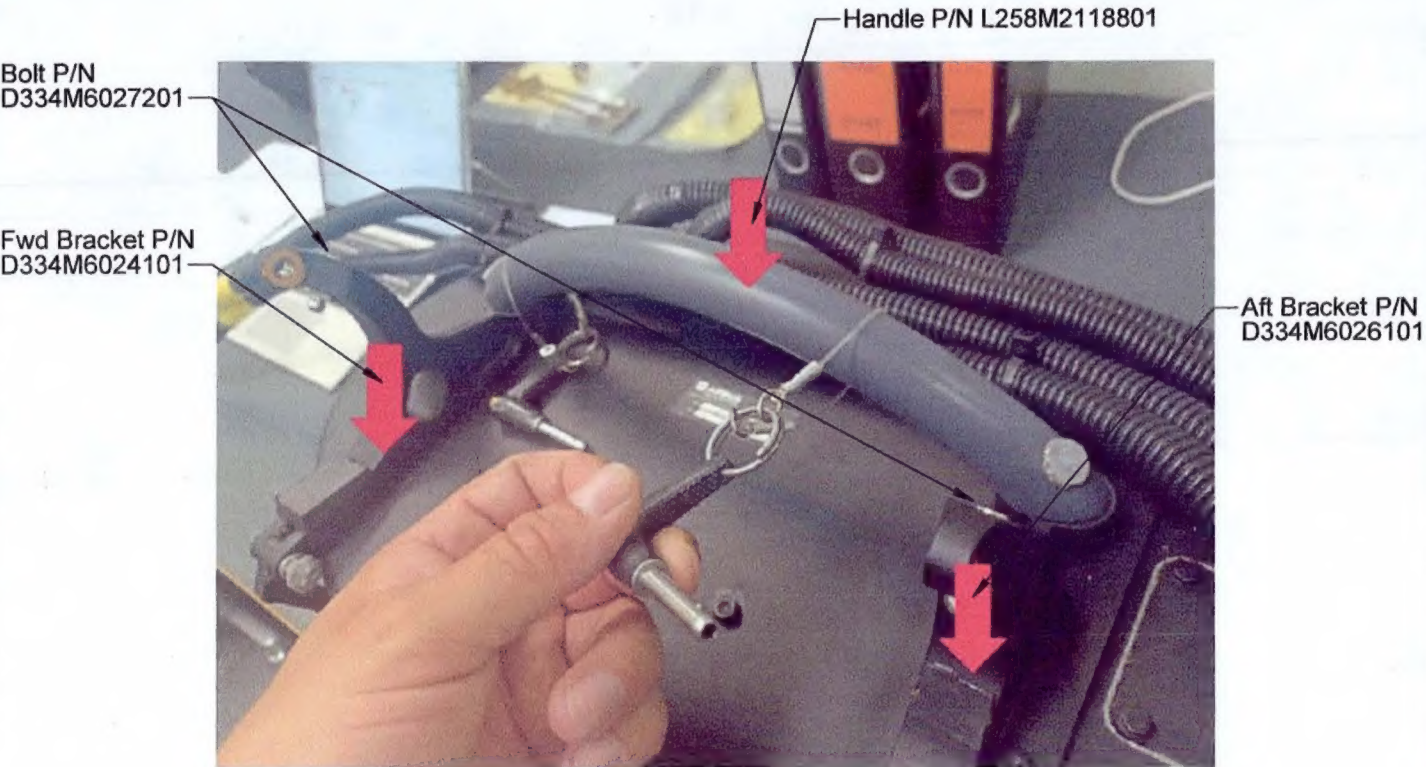

FIGURE 1: REMOVE HANDLE
2. Remove the handle (P/N L258M2118801) with Quick Release Pins (See Figure 1) from the existing brackets used to attach the Trakka Box to the Multi-Functional-Step. Retain screws, washers, plugs, and handle for re-installation.
6. Install a D334M6027201 bolt into the helical insert on the Dart Fwd (P/N 652.1302) and Aft (P/N 652.1301) brackets as shown in Figure 1 using PPG CA1010.